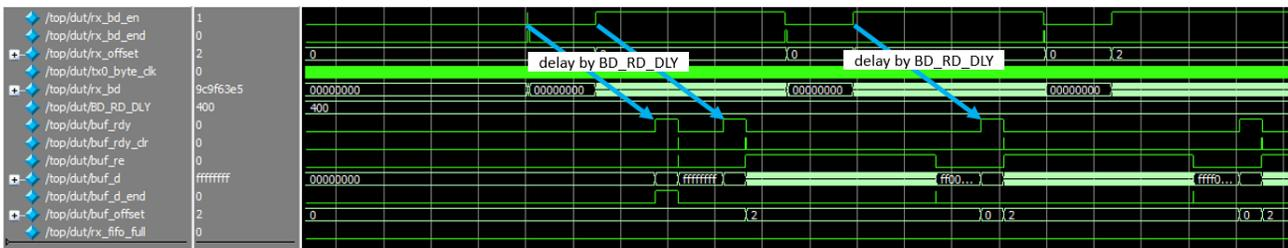
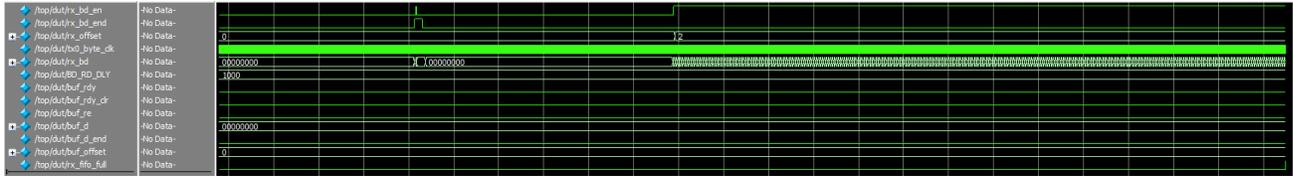

Figure 3.5. rx\_buffer Write/Read Example with Depth = 512, BD\_RD\_DLY = 400
Figure 3.6. rx\_buffer FIFO Overflow with Depth = 512, BD\_RD\_DLY = 1000
**Figure 3.5** and **Figure 3.6** show the difference by BD\_RD\_DLY in the same design. In this case, WC (payload byte count) is 2400, which means it takes 1200 rx\_byte\_clk cycles to write all long packet payload data to FIFO. tx0\_byte\_clk exactly matches the derived clock ratio by **Table 1.2**. In case of BD\_RD\_DLY = 400, FIFO read (buf\_re = 1) begins while FIFO has some room to be filled up. In case of BD\_RD\_DLY = 1000, data is corrupted due to FIFO overflow.